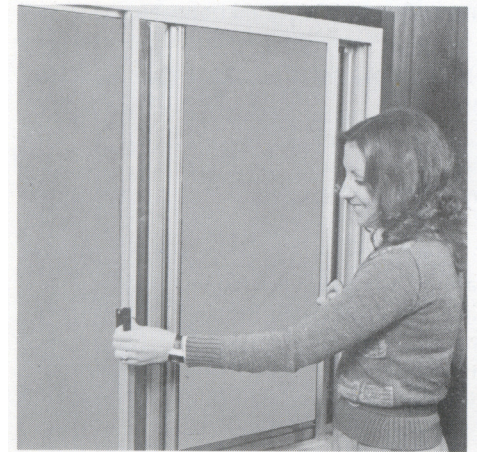

Figure 3
2. Grasp the side rails of the prime operating sash (1) at about the mid height of the sash or a little below, and slide the sash horizontally to open to the desired ventilating position. (Figure 3)